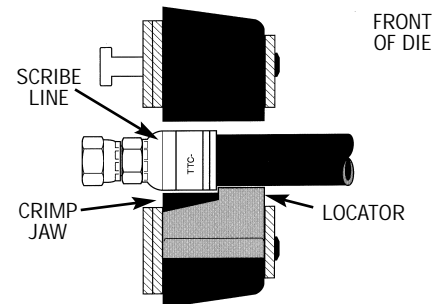

Figure 2.
3. Insert the fitting into the crimp cage, then locate the back edge of the socket against the locator as shown in figure 2.